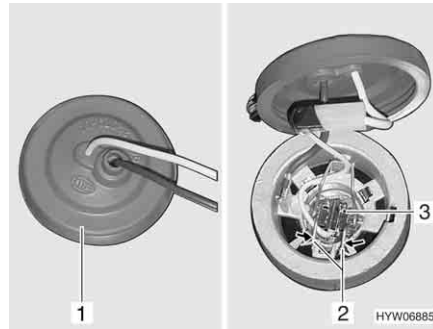

Fig. 258 Fog light
- Put your hand behind the fog light and remove rubber cap (Fig. 258,1) from lamp housing.
- Press metal clip (Fig. 258,2) together and release from holder.
- Remove bulb (Fig. 258,3) with cable from lamp housing.